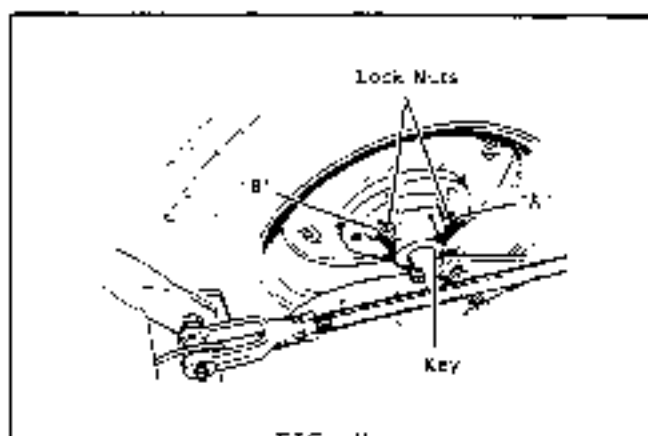

FIG. 8
10. Place the key in the slot of the axle shaft and mount the L.H. wheel and hub in place over the key. Tighten the setscrew "B" into the setscrew hole on the axle shaft. See Fig. 8. Tighten the setscrew "A" and lock both setscrews with the locknuts. Tighten securely.